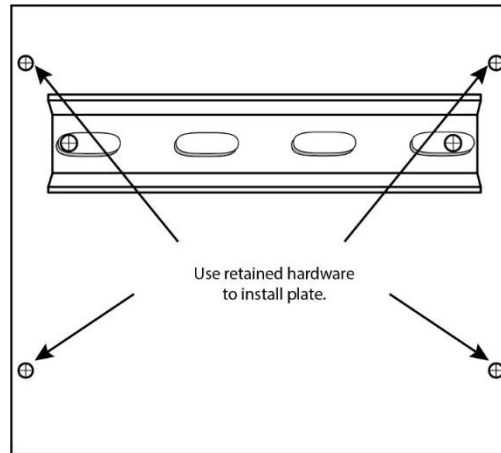

Figure 3 Install Mounting Plate
2. Use retained hardware to mount plate to studs which previously held the KRM100. See Figure 3.